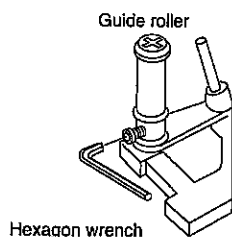

Figure 4-30.
- b) Loosen the setscrew at the lower part of the guide roller, and adjust it with an adjusting screw driver (JIGDRIVERH-4) so that the guide roller turns smoothly. (Do not overloosen the setscrew, which causes insecurity of the guide roller.) (See Figure 4-30.)